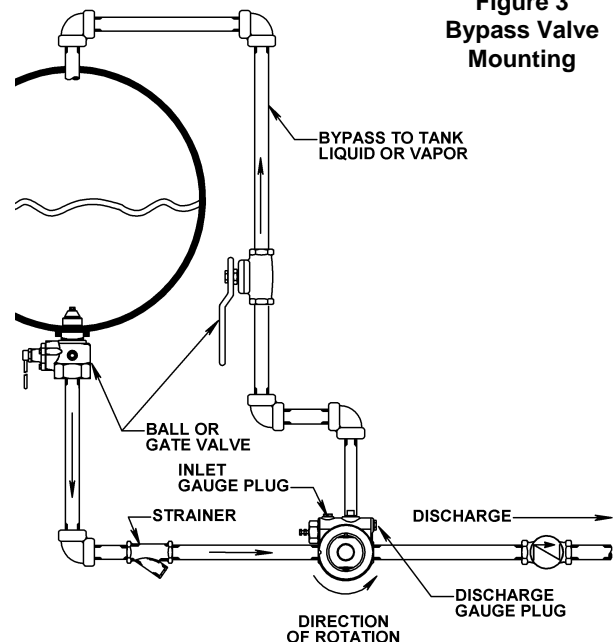

Figure 3
9. The external bypass line should be 1/2" (12.7 mm) diameter pipe and can be piped back to either the liquid or vapor section of the tank. See Figure 3
The built-in spring loaded pump relief valve on the LG1 pump models has a dual purpose. The valve provides an external bypass back to the tank to provide relief of excess pressure. The valve also will act as an internal relief valve recirculating fluid within the pump to provide relief of excess pressure if the separate back-to-tank line is closed. See Figure 3. Refer to "Relief Valve Setting and Adjustment" for proper valve setting and adjustment procedure.